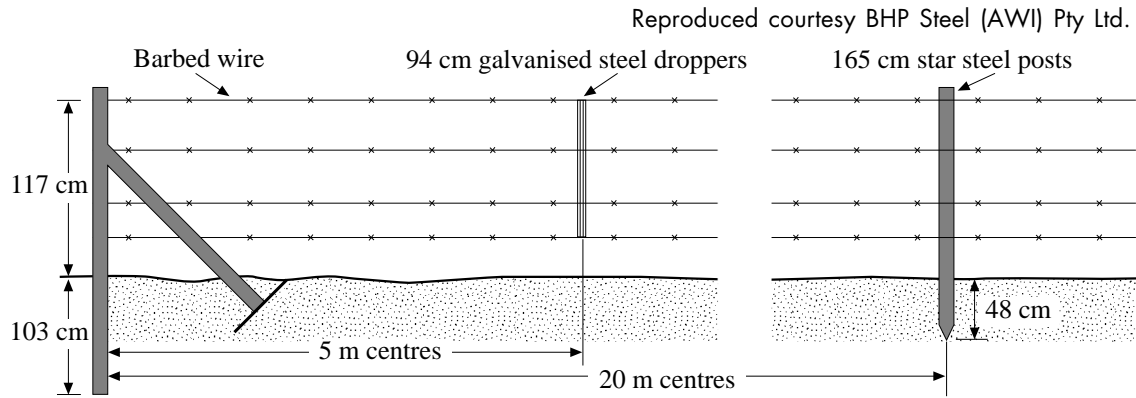

FIG. 5. STATION CATTLE FENCE
- (d) A rectangular cattle paddock has to be fenced. The area to be fenced is $200\text{ m} \times 300\text{ m}$ and the type of fence to be used is shown in Figure 5. Complete Table 1 and then calculate the total cost of the fencing.